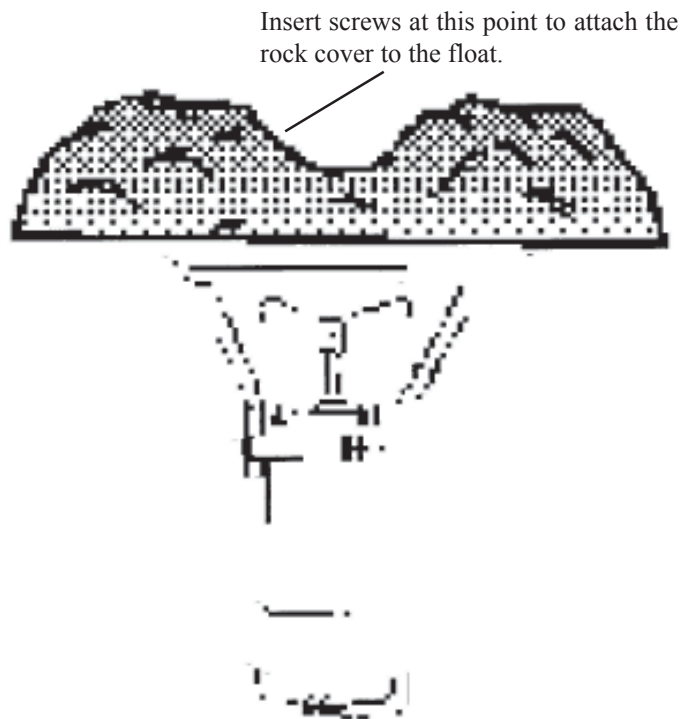

Figure 11
**C. Insert the two Otter Rock tie down bolts into the holes in the rock cover and attach the cover to the float --see Figure 11.**